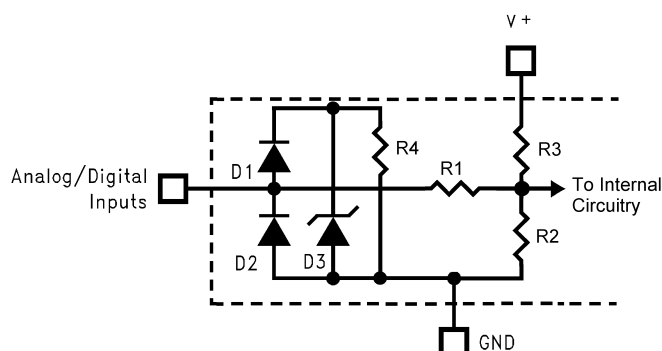

Figure 2. ESD Protection Input Structure
- (1) Parasitics and or ESD protection circuitry are shown in Figure 2 for the LM87's pins. The nominal breakdown voltage of the zener D3 is 6.5 V. Care should be taken not to forward bias the parasitic diode, D1, present on pins: A0/NTEST_OUT, A1 and DACOut/NTEST_IN. Doing so by more than 50 mV may corrupt a temperature or voltage measurement.
- (2) Typicals are at $T_J = T_A = 25 \, ^\circ\text{C}$ and represent most likely parametric norm.
- (3) Limits are specified to TI's AOQL (Average Outgoing Quality Level).
- (4) The Temperature Error specification does not include an additional error of $\pm 1 \, ^\circ\text{C}$, caused by the quantization error.
- (5) The Temperature Error will vary less than $\pm 1 \, ^\circ\text{C}$ over the operating V_{CC} range of 2.8V to 3.8V.
- (6) TUE (Total Unadjusted Error) includes Offset, Gain and Linearity errors of the ADC.
- (7) Total Monitoring Cycle Time includes all diode checks, temperature conversions and analog input voltage conversions. Fan tachometer readings are determined separately and do not affect the completion of the monitoring cycle.
- (8) This is the lowest DAC code specified to give a non-zero DAC output.